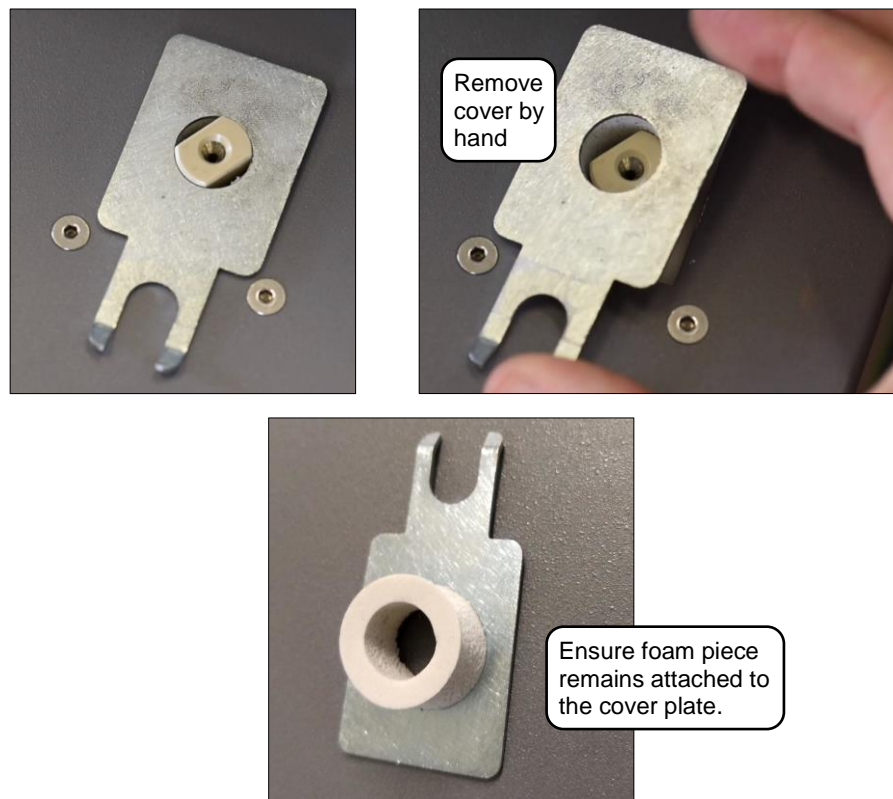

Figure 11: Injection Port Septum Cover Removal
7. Remove the protective metal cover from the injection port. There is a piece of insulation foam attached to the cover plate. Ensure that it stays attached to the plate. See Figure 11.